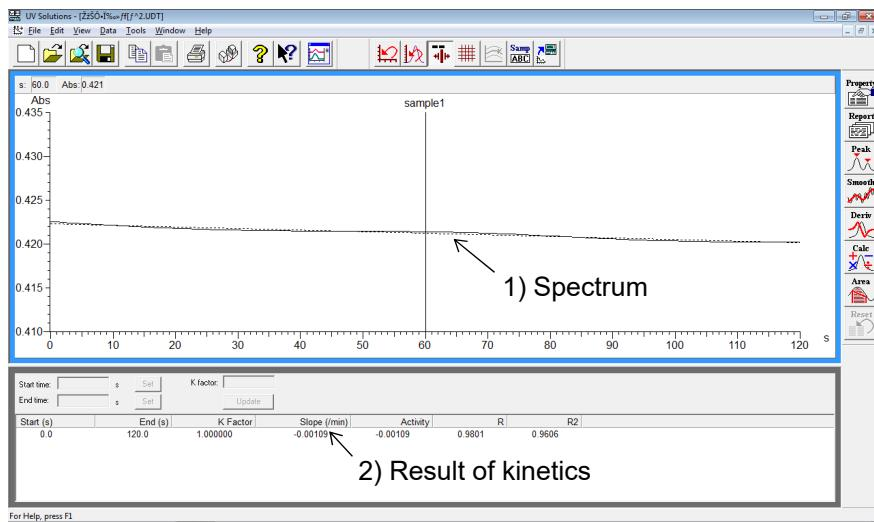

Fig. 3-28 Data Processing Window (Time Scan)
- (5) When measurement is finished, the measurement data will be automatically saved under the specified file name at the specified destination. Upon opening the file, a data processing window as in Fig. 3-28 will appear. This window shows a spectrum and the result of kinetics (rate calculation). Although a peak table can also be displayed, it cannot be displayed together with the result of kinetics. Display items are selectable via the View menu.
Now select the Print command on the File menu and click the **OK** button, or click the  (Print) button on the toolbar. In this case, the field that is active on the data processing window (1) in Fig. 3-28) will be printed. The items indicated (Fig. 3-29) by clicking the Print Preview command in the File menu will be printed.